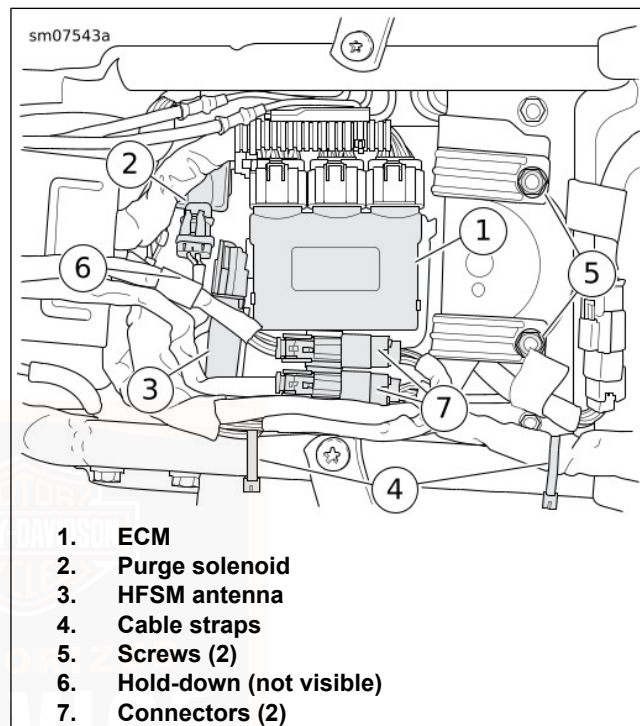

Figure 85. Top Caddy
2. See Figure 85. Release ECM (1) from top caddy. Move out of the way.
3. If present, move purge solenoid (2) forward to release from top caddy.
4. **Models with security system:** Release HFSS antenna (3) from top caddy and move out of the way.
5. Release connectors (7) from anchors on top caddy.
6. Remove fasteners (5).
7. Cut cable straps (4). Move harnesses to allow more clearance for the top caddy.
7. See Figure 85. Place top caddy into position and engage latch on hold-down bracket.
8. Fasten top caddy to frame crossmember with fasteners (5). Tighten.